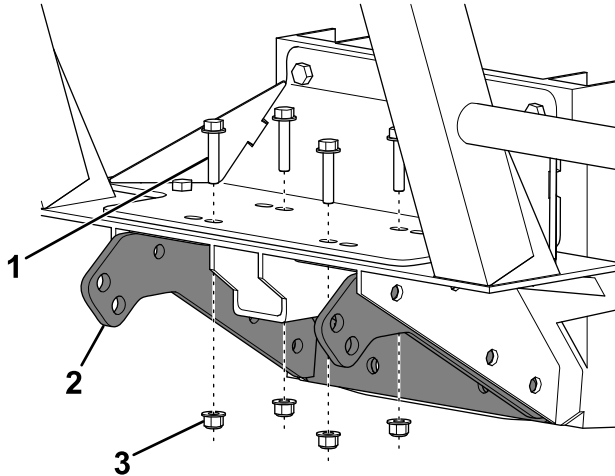

Figure 3
- Loosely attach the skid plate to the vehicle frame and winch plate using 4 flange-head bolts (M8) and flange-head locknuts (M8) as shown in Figure 3.
Note: If your vehicle is equipped with a winch, discard the flange-head bolts and locknuts (M8), and use the existing bolts to secure the skid plate. Install the existing bolts in the opposite direction shown in Figure 3.